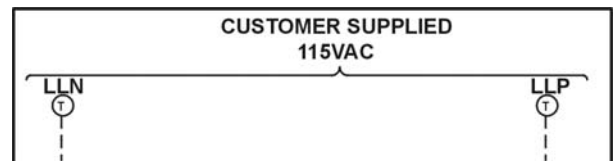

Figure 1-2
- An independent, emergency backed single-phase supply for the cab lighting circuit is required for all elevator controllers.[See Figure 1-2.]